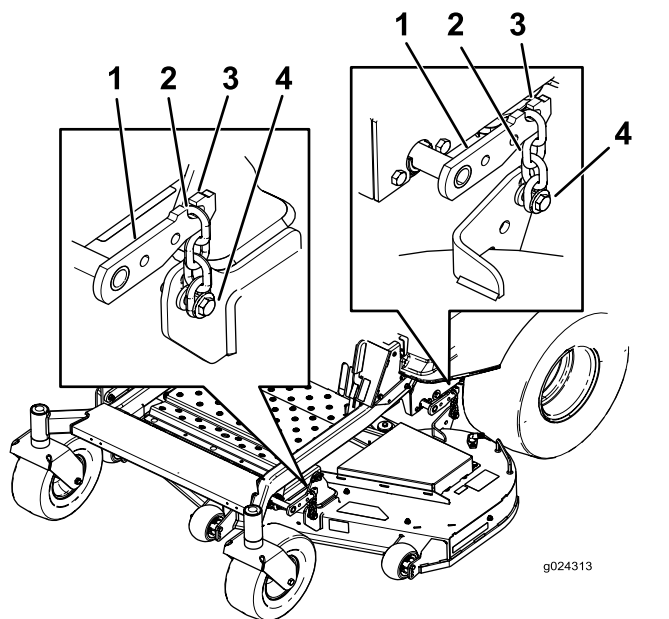

Figure 76
3. Remove the chains from the hooks on the deck lift arms (Figure 76).
6. Lift the rear of the mower deck and attach the chains to the rear lift arms (Figure 76).
7. Attach the front chains to the front lift arms (Figure 76).